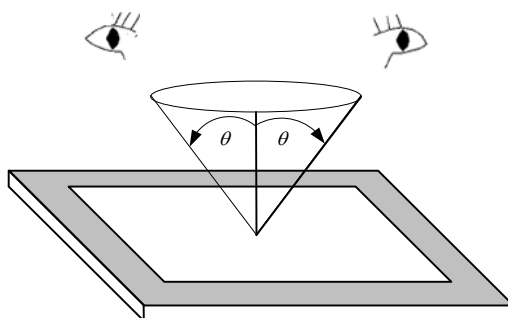

Fig. 11.1
- The viewing zone is defined with angle  $\theta$  shown in Fig.11.1 The inspection should be performed within  $45^\circ$  when display is shut down. The inspection should be performed within  $5^\circ$  when display is power on.